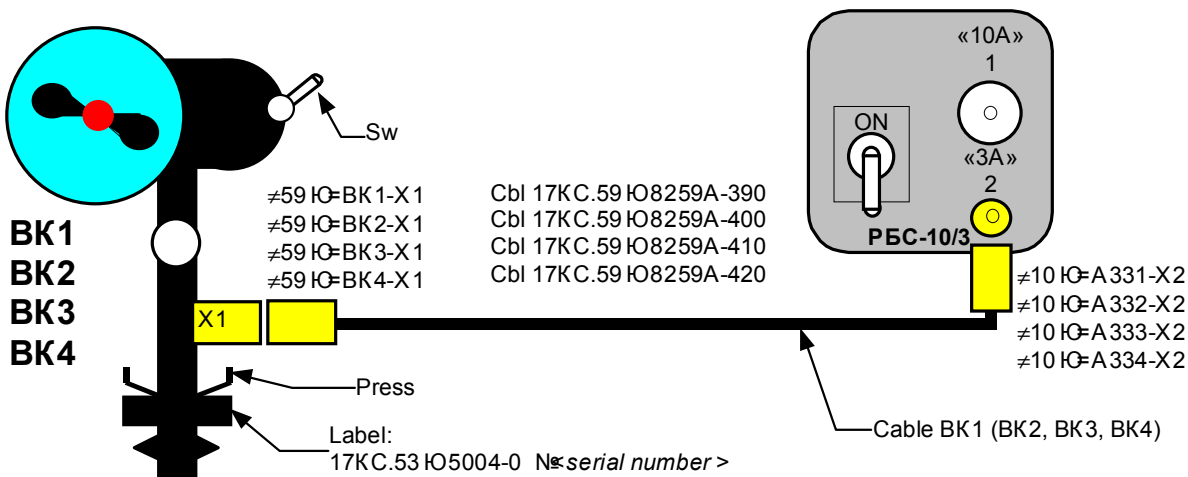

Figure 4.2.6 [BK1], [BK2], [BK3], [BK4] Connection Diagram
##### 2. [BK1] ([BK2], [BK3], [BK4]) INSTALLATION (see Figure 4.2.6)
5. [BK1] ([BK2], [BK3], [BK4]) REMOVAL (see Figure 4.2.6)